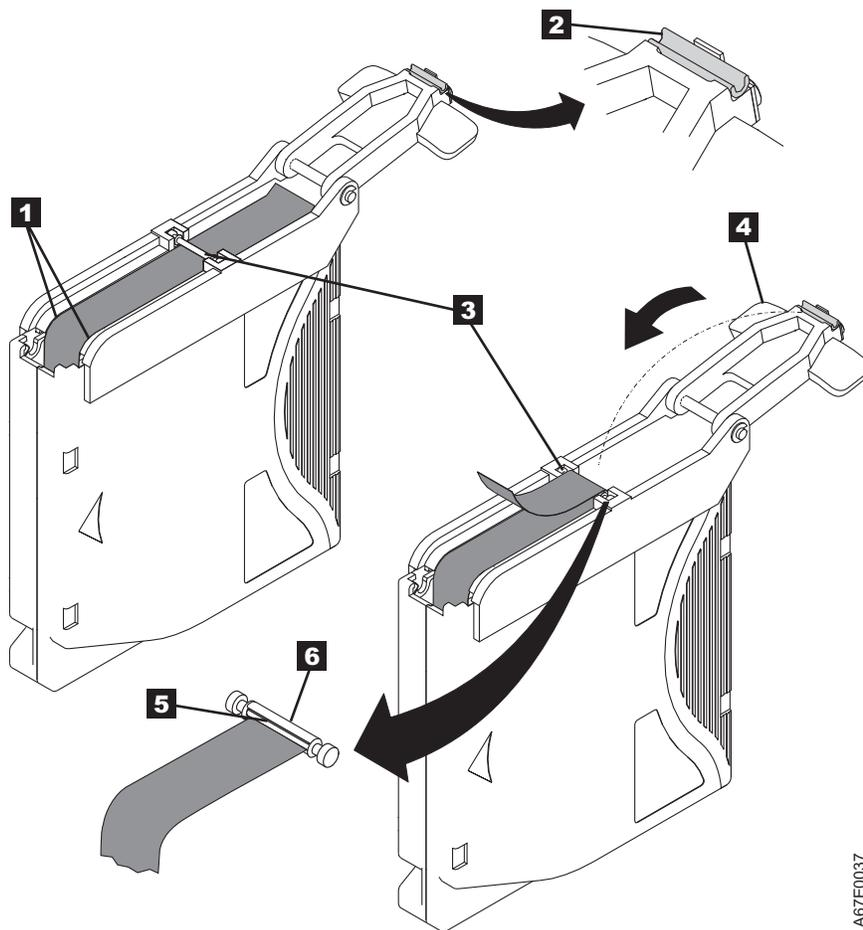

Figure 6-15. Attaching the leader pin to the tape
7. Position the tape in the alignment groove of the leader pin attach tool (see **1** in Figure 6-15 on page 6-18).
8. Place a new C-clip into the retention groove ( **2** ) (Figure 6-15 on page 6-18) on the leader pin attachment tool and make sure that the clip's open side faces up.
9. Place the leader pin (from step 6) into the cavity ( **3** ) (Figure 6-15 on page 6-18) of the leader pin attach tool.
10. Fold the tape over the leader pin and hold it with your fingers (see Figure 6-15 on page 6-18).